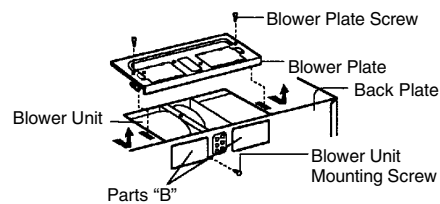

Figure 12
1. Remove one blower unit mounting screw and one or two blower plate screw(s). Remove the blower plate from cabinet. See Figure 12.